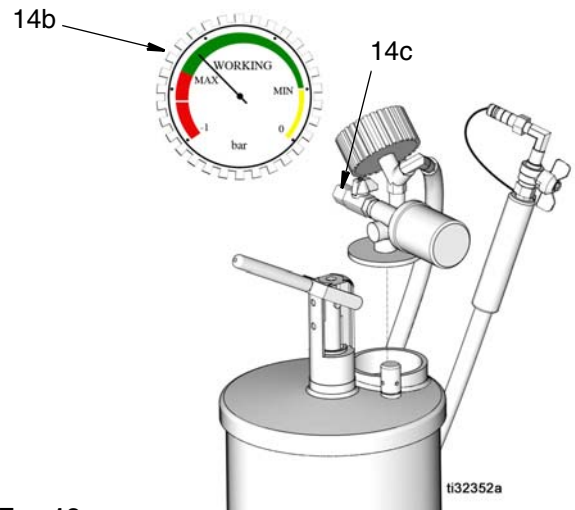

FIG. 18
2. Adjust handle (15) to position A to close the chamber.
3. Connect air supply to air inlet fitting (14c). Supply air until the vacuum gauge (14b) needle reaches the green area on the gauge as shown in FIG. 18.